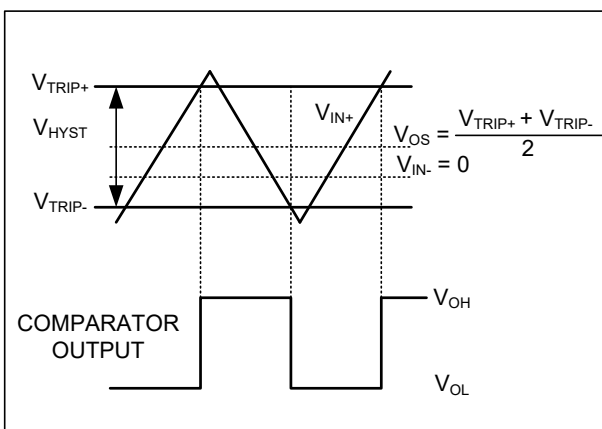

Figure 1. Input and Output Waveform, Non-Inverting Input Varied
- VOS is defined as the center of the input-referred hysteresis zone. See Figure 1.
- The input-referred trip points are the extremities of the differential input voltage required to make the comparator output change state. The difference between the upper and lower trip points is equal to the width of the input-referred hysteresis zone. See Figure 1.
The hysteresis in a comparator creates two trip points: one for the rising input voltage and one for the falling input voltage (Figure 1). The difference between the trip points is the hysteresis. The average of the trip points is the offset voltage. When the comparator's input voltages are equal, the hysteresis effectively causes one comparator input voltage to move quickly past the other, thus taking the input out of the region where oscillation occurs. Standard comparators require hysteresis to be added with external resistors. The SGM8740's fixed internal hysteresis eliminates these resistors. To increase hysteresis and noise margin even more, add positive feedback with two resistors as a voltage divider from the output to the non-inverting input.
Figure 1 illustrates the case where IN- is fixed and IN+ is varied. If the inputs were reversed, the figure would look the same, except the output would be inverted.